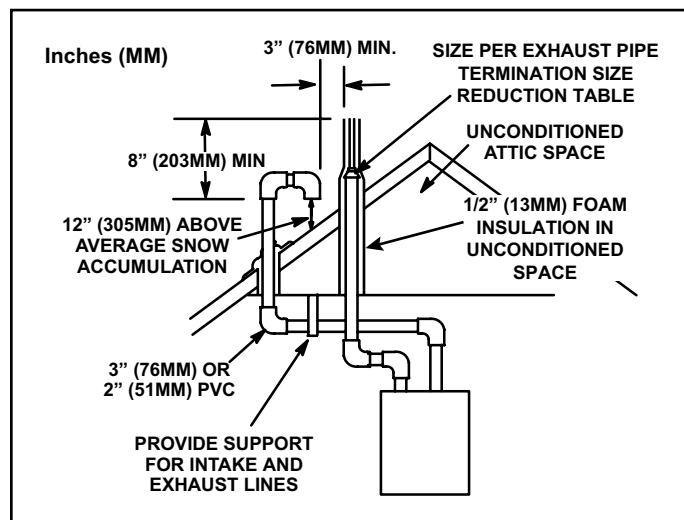

Figure 24. Direct Vent Roof Termination Kit (15F75 or 44J41)
Intake and exhaust pipes may be routed either horizontally through an outside wall or vertically through the roof. In attic or closet installations, vertical termination through the roof is preferred. Figure 24 through Figure 31 show typical terminations.
3. On roof terminations, the intake piping should terminate straight down using two 90° elbows (Figure 24).